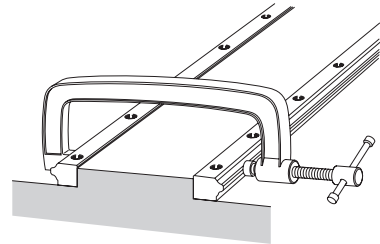

Fig.18
- (2) Use a small vice to press the two LM rails to the base so that they closely contact the reference surface, then tighten the mounting bolts to the recommended torque (see A-350). (Fig.18)
- (3) Mount the LM blocks on the table, then install them onto the LM rails. Be sure the mounting bolts for the LM blocks are temporarily fastened.